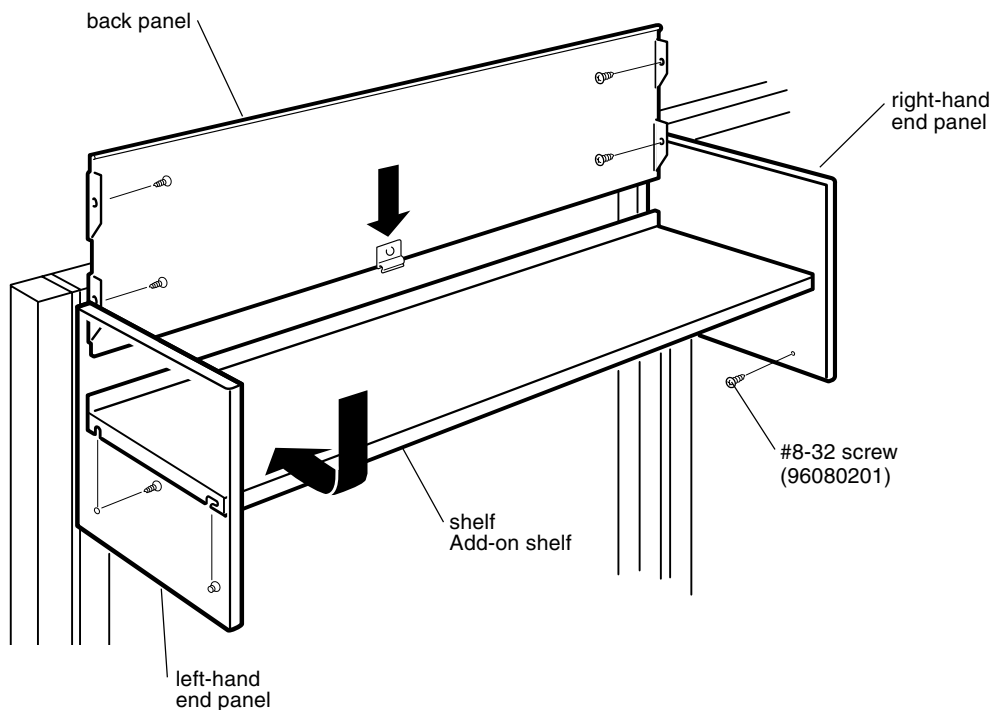

Figure 1
1. Install two (2) #8-32 phillips screws into bottom holes of each end panel. With screws to the inside, engage left-hand end panel in left side of panel at designated height. Push down to securely set. Repeat with right-hand end panel. (Figure 1)
2. Position notches in shelf's ends over screws in end panels, dropping shelf over screws. Make sure screws are engaged in notches and securely tighten. (Figure 1)